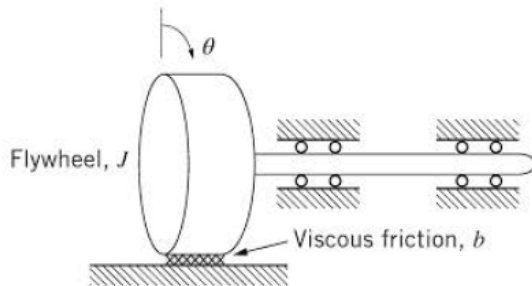

Figure P6.1
- 6.1 Figure P6.1 shows a flywheel with moment of inertia $J = 0.5 \text{ kg}\cdot\text{m}^2$ that is initially rotating at an angular velocity $\dot{\theta}_0 = 40 \text{ rad/s}$. The flywheel is subjected to friction, which is modeled by linear viscous friction torque $b\dot{\theta}$, with friction coefficient $b = 0.06 \text{ N}\cdot\text{m}\cdot\text{s}/\text{rad}$. Use Simulink to obtain the dynamic response and plot the angular position $\theta(t)$ (in rad) and angular velocity $\dot{\theta}(t)$ (in rad/s). In addition, use the simulation to integrate the rate of energy dissipation $\dot{\xi}$ and plot dissipated energy (in J) vs. time. Show that the total dissipated energy as computed by the simulation is equal to the system's initial energy.